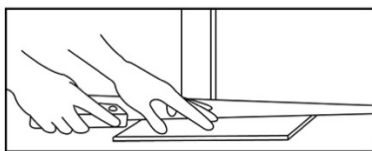

Figure 4
- Be attentive to staggering the ends of the boards at least 4"-6" (10-15 cm) when possible, in adjacent rows (Figure 4). This method will help ensure a more favorable overall appearance of the floor.
- End-joints of adjacent rows should be staggered a minimum of 4"-6" (10-15 cm) when possible, to ensure a more favorable overall appearance (Figure 4).
- Check for a tight fit between all edges and ends of each plank. End-joints of adjacent rows should be staggered 4"-6" (10-15 cm) when possible, to ensure a more favorable overall appearance (Figure 4).